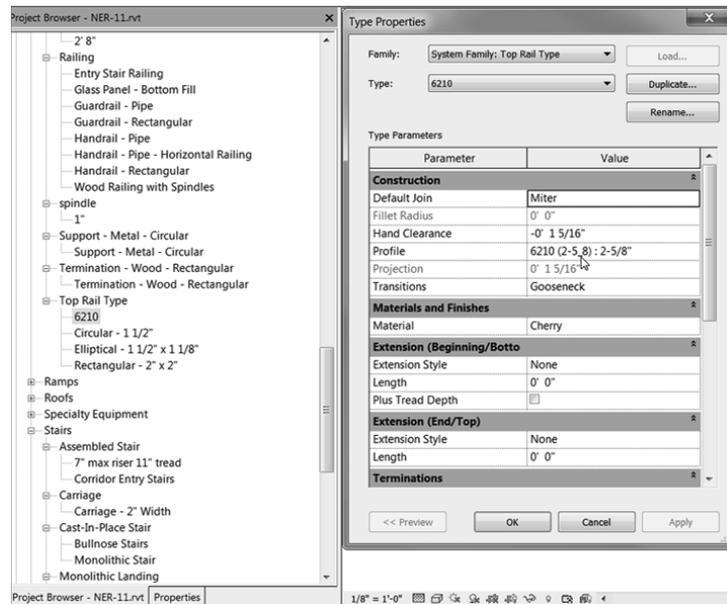

FIGURE 10.56: Changing the rail. Note that you can add as many rails as you want. Here, you're adding only one.
8. In the Project Browser, under the Families category, scroll down until you see Top Rail Type, as shown in Figure 10.56.